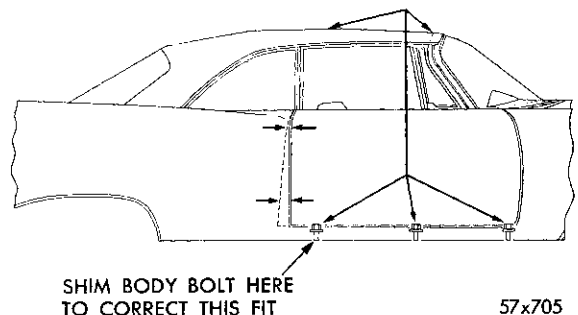

Fig. 32—Shimming Body for Door Alignment
11. SHIMMING THE BODY FOR DOOR ALIGNMENT (Fig. 32)